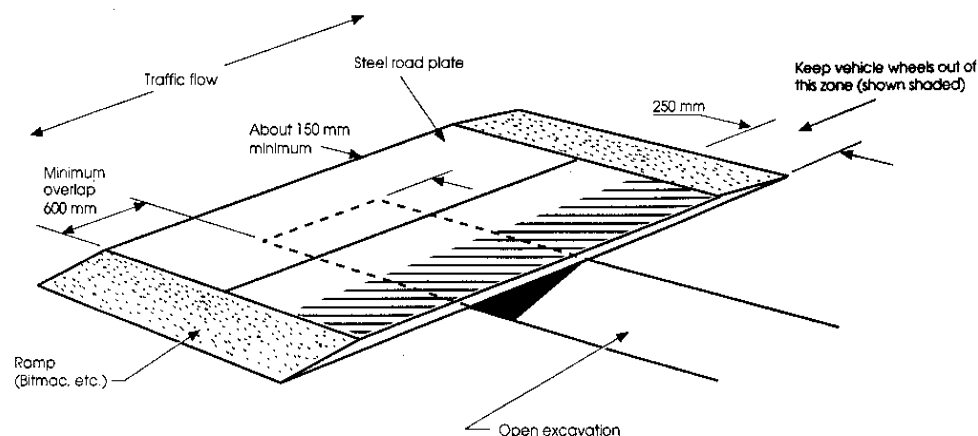

FIGURE 3 -TYPICAL TEMPORARY BRIDGING
45. Road-plates for use by private cars over trenches less than 600mm wide in driveways to be 5mm thick, and supported by an overlap of 600mm on each side of the trench. (see figure 3)